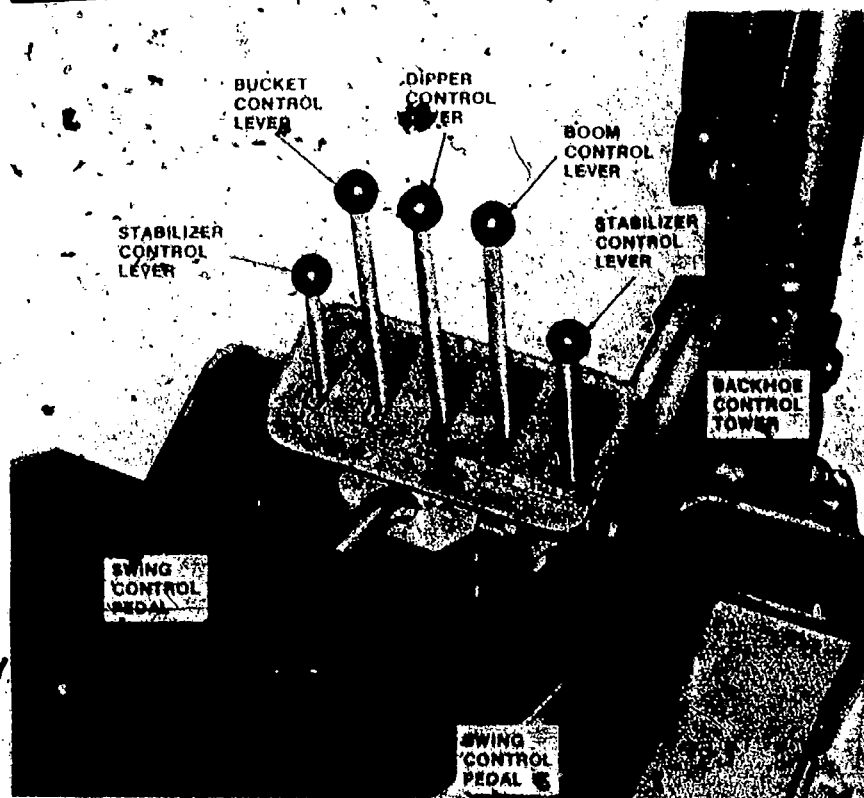

Fig 4-12. Backhoe controls.
- (3) Backhoe controls (fig 4-12). These controls consist of five levers located on the backhoe control tower.